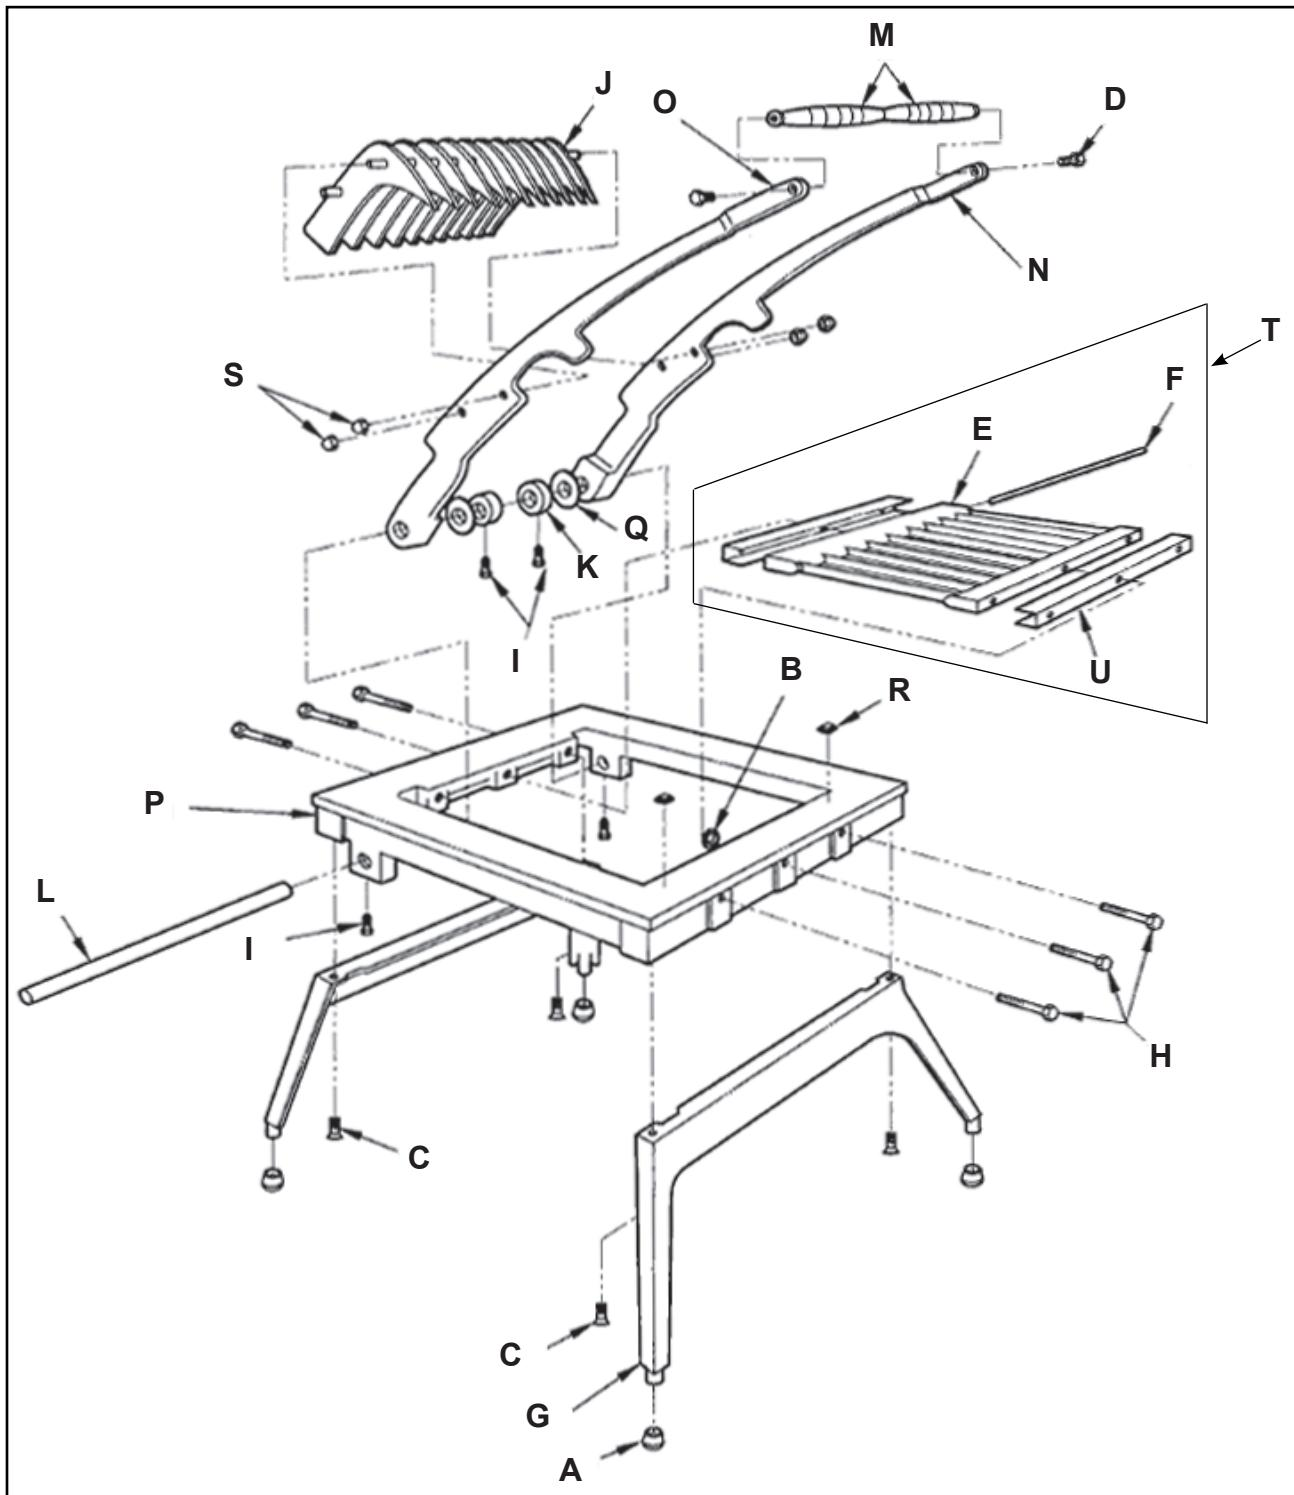

Figure 6. Spare Parts for Lettuce King I
1. Familiarize yourself with the parts diagram for your equipment. See Figure 6 (Spare Parts for Lettuce King I) for parts to reference for this procedure.
4. Verify that the pusher head bumpers (R) are installed. If missing, clean the surface and install new pusher head bumper(s).
5. Remove the screws retaining the blade assembly (T). Carefully remove and dispose the blade assembly.
6. Examine the pusher head (J) fingers. If they are nicked or burred, smooth the rough edges with a small flat file. The spaces between the fingers must be uniform. Straighten any bent fingers.
7. Verify that blade shields (U) are installed on the blade assembly (T).
8. Place the blade assembly (T) into the base assembly (P) so the it is seated correctly and the sharp side up.
9. Install the screws into the rear side of the blade assembly (T). Tighten until contact is made with the base assembly (P). Turn the screw until tight, do not exceed 1/2 turn or 40 in. lbs.
10. Place rubber washer between the base assembly (P) and the blade assembly (T). Insert the screws through the frame, and rubber washer into the blade assembly. Turn the screw until tight, do not exceed 1/2 turn or 40 in. lbs.
11. Slowly bring the pusher head (J) down to the blade assembly (T). If there is contact, the pusher head may need to be adjusted. To adjust, loosen the locking collar set screws (I) and position then adjust the pusher head fingers. Tighten the locking collar set screws.